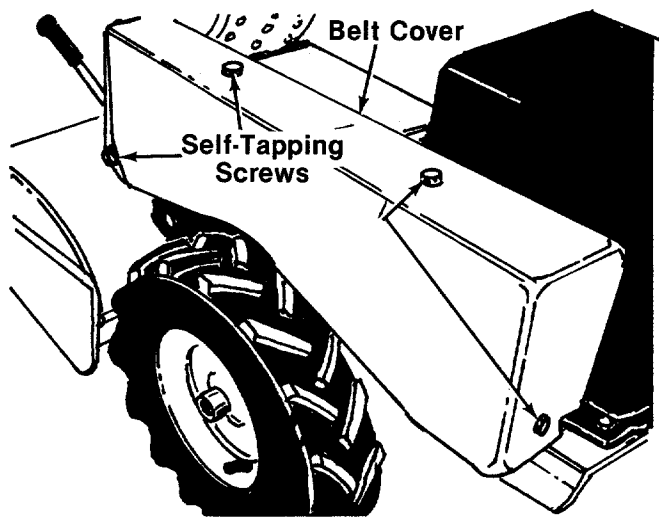

FIGURE 26.
1. Remove belt cover by removing the four self-tapping screws and flat washers. See figure 26.